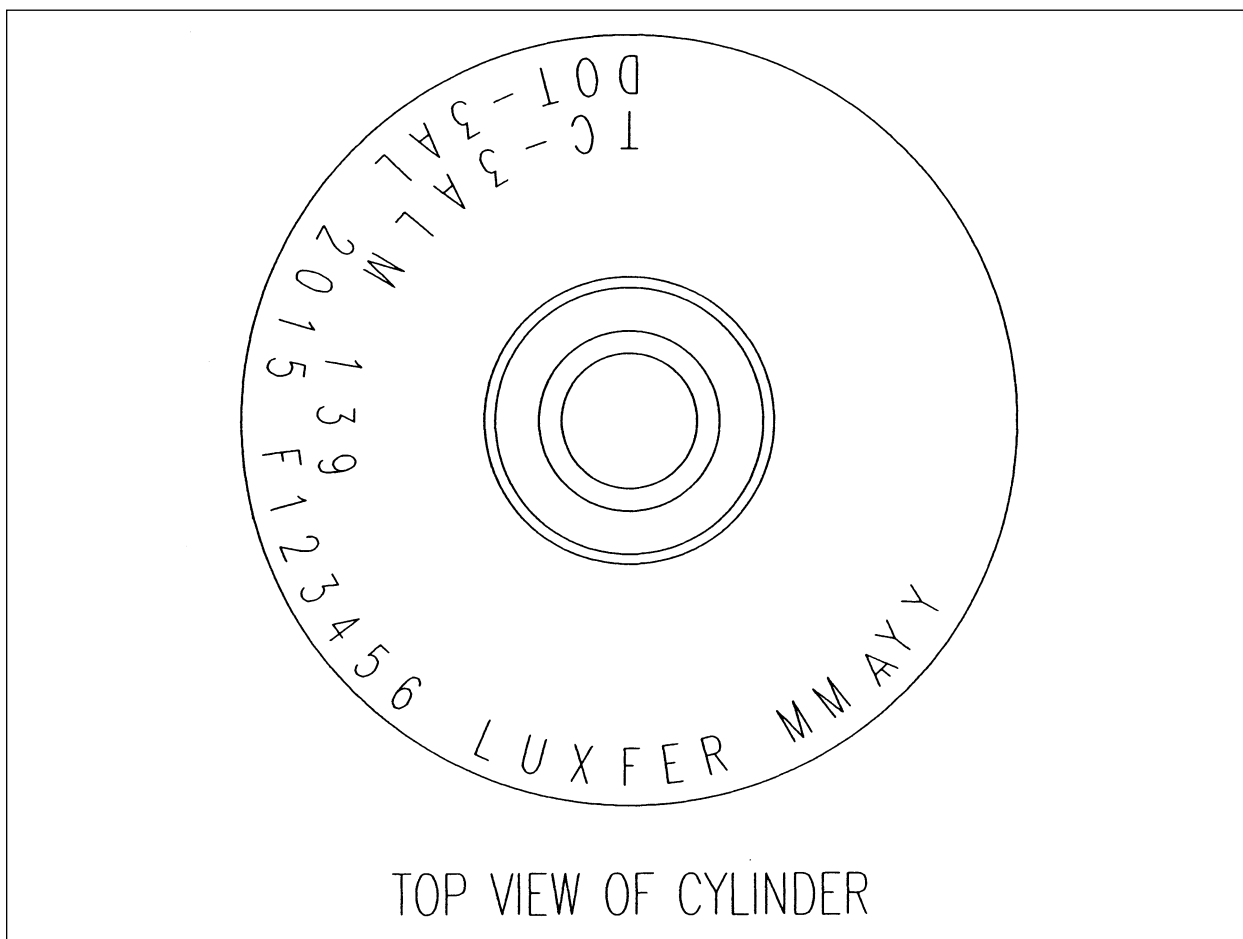

FIGURE 1.
**government specification:** A government's requirements for a cylinder which is usually included in the cylinder marking or on a cylinder label. Each country may have their own specification, or, they may accept the U.S.A. DOT specification. Within the U.S.A. the government specification of an aluminum scuba cylinder may be "DOT-3AL" for example, or "DOTE6498." See FIGURES 1 - 4 for U.S.A. examples.
**markings:** The words, letters, numbers and symbols stamped into the aluminum cylinder. Manufacturing markings include cylinder information (date manufactured, date first hydro tested, cylinder type, service pressure [in psig or bar or both, serial number, etc.]). Other markings include the hydrostatic retest date(s) and markings authorized to be added by the DOT. See FIGURES 1 - 4.
**stamped markings:** See **markings**. For examples of Luxfer stamped markings used over the years, see FIGURES 1 - 4.